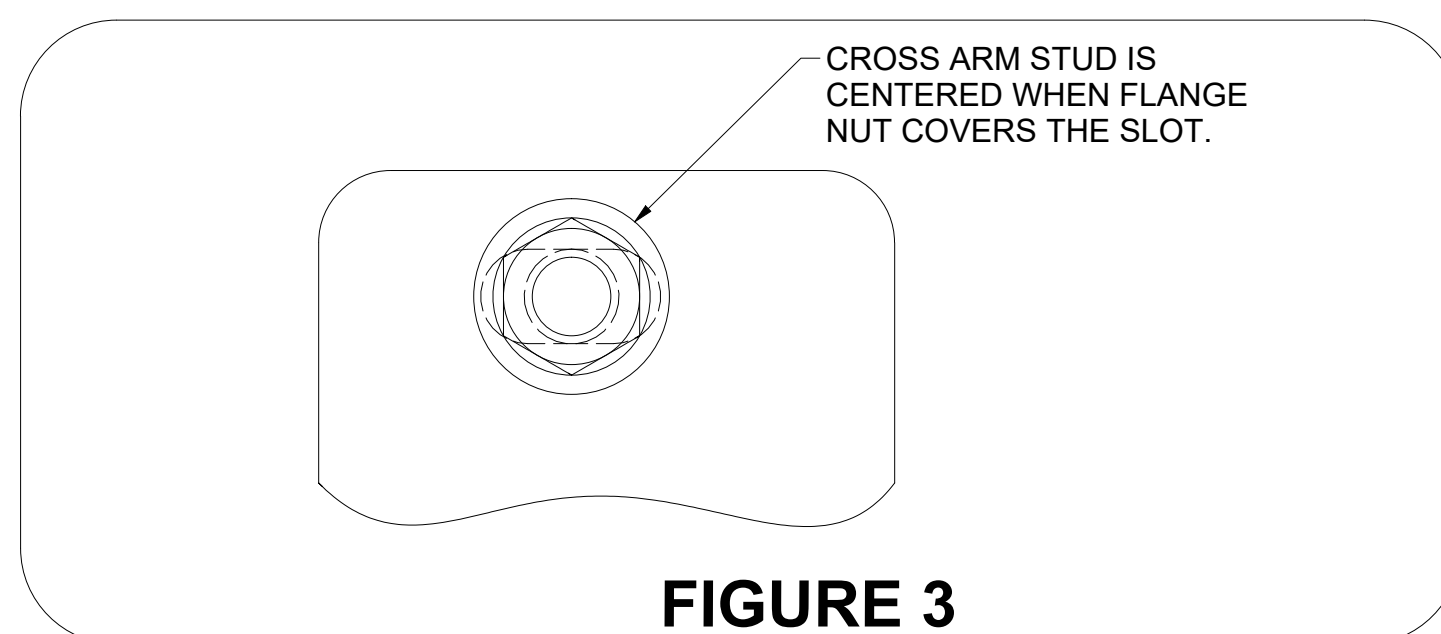

FIGURE 3
9. Rotate the cross arms until they contact the truck bed. Center the rear cross arm studs in the side plate slots as shown in **Figure 3**. Use a 15/16" wrench to tighten the 5/8" flange nuts on the rear cross arm to the side plates. Use the spacer tube provided to evenly space the cross arms. Once evenly spaced tighten the 5/8" flange nuts on the front cross arm. (Note: Do not tighten front cross arm until cross arms are evenly spaced.)